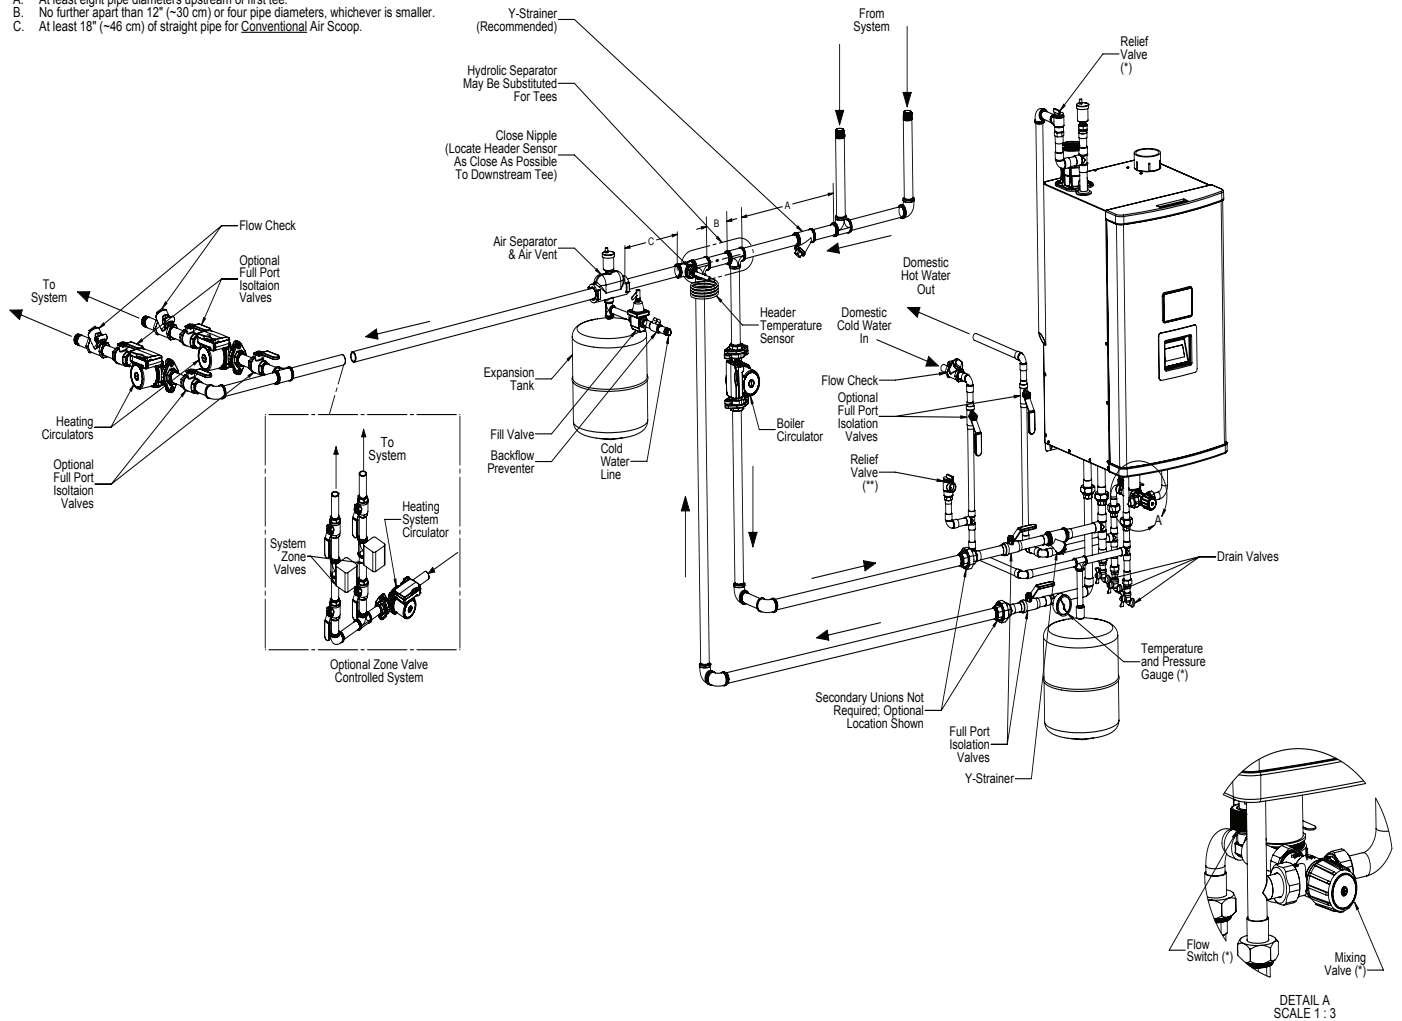

**Figure C.1: Combi Piping Assembly Outside of Jacket**
2. Install boiler per installation instructions. Attach supply and return piping at bottom of jacket (See Figure C.1).